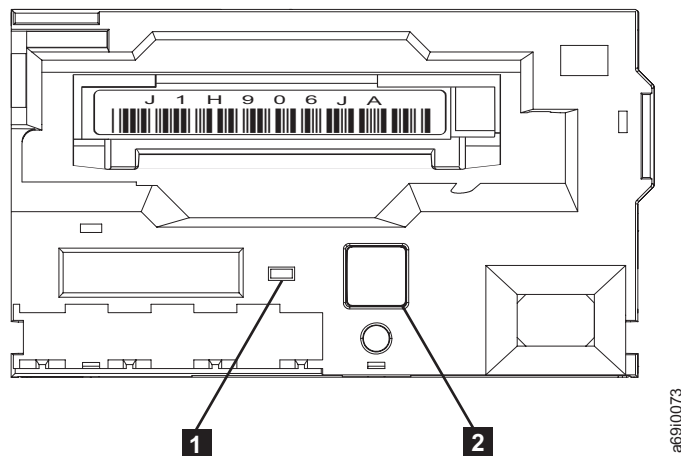

Figure 29. Removing a cartridge from a 3592 Tape Drive
- a. Ensure that the green power indicator light is on (see 1 in Figure 29).